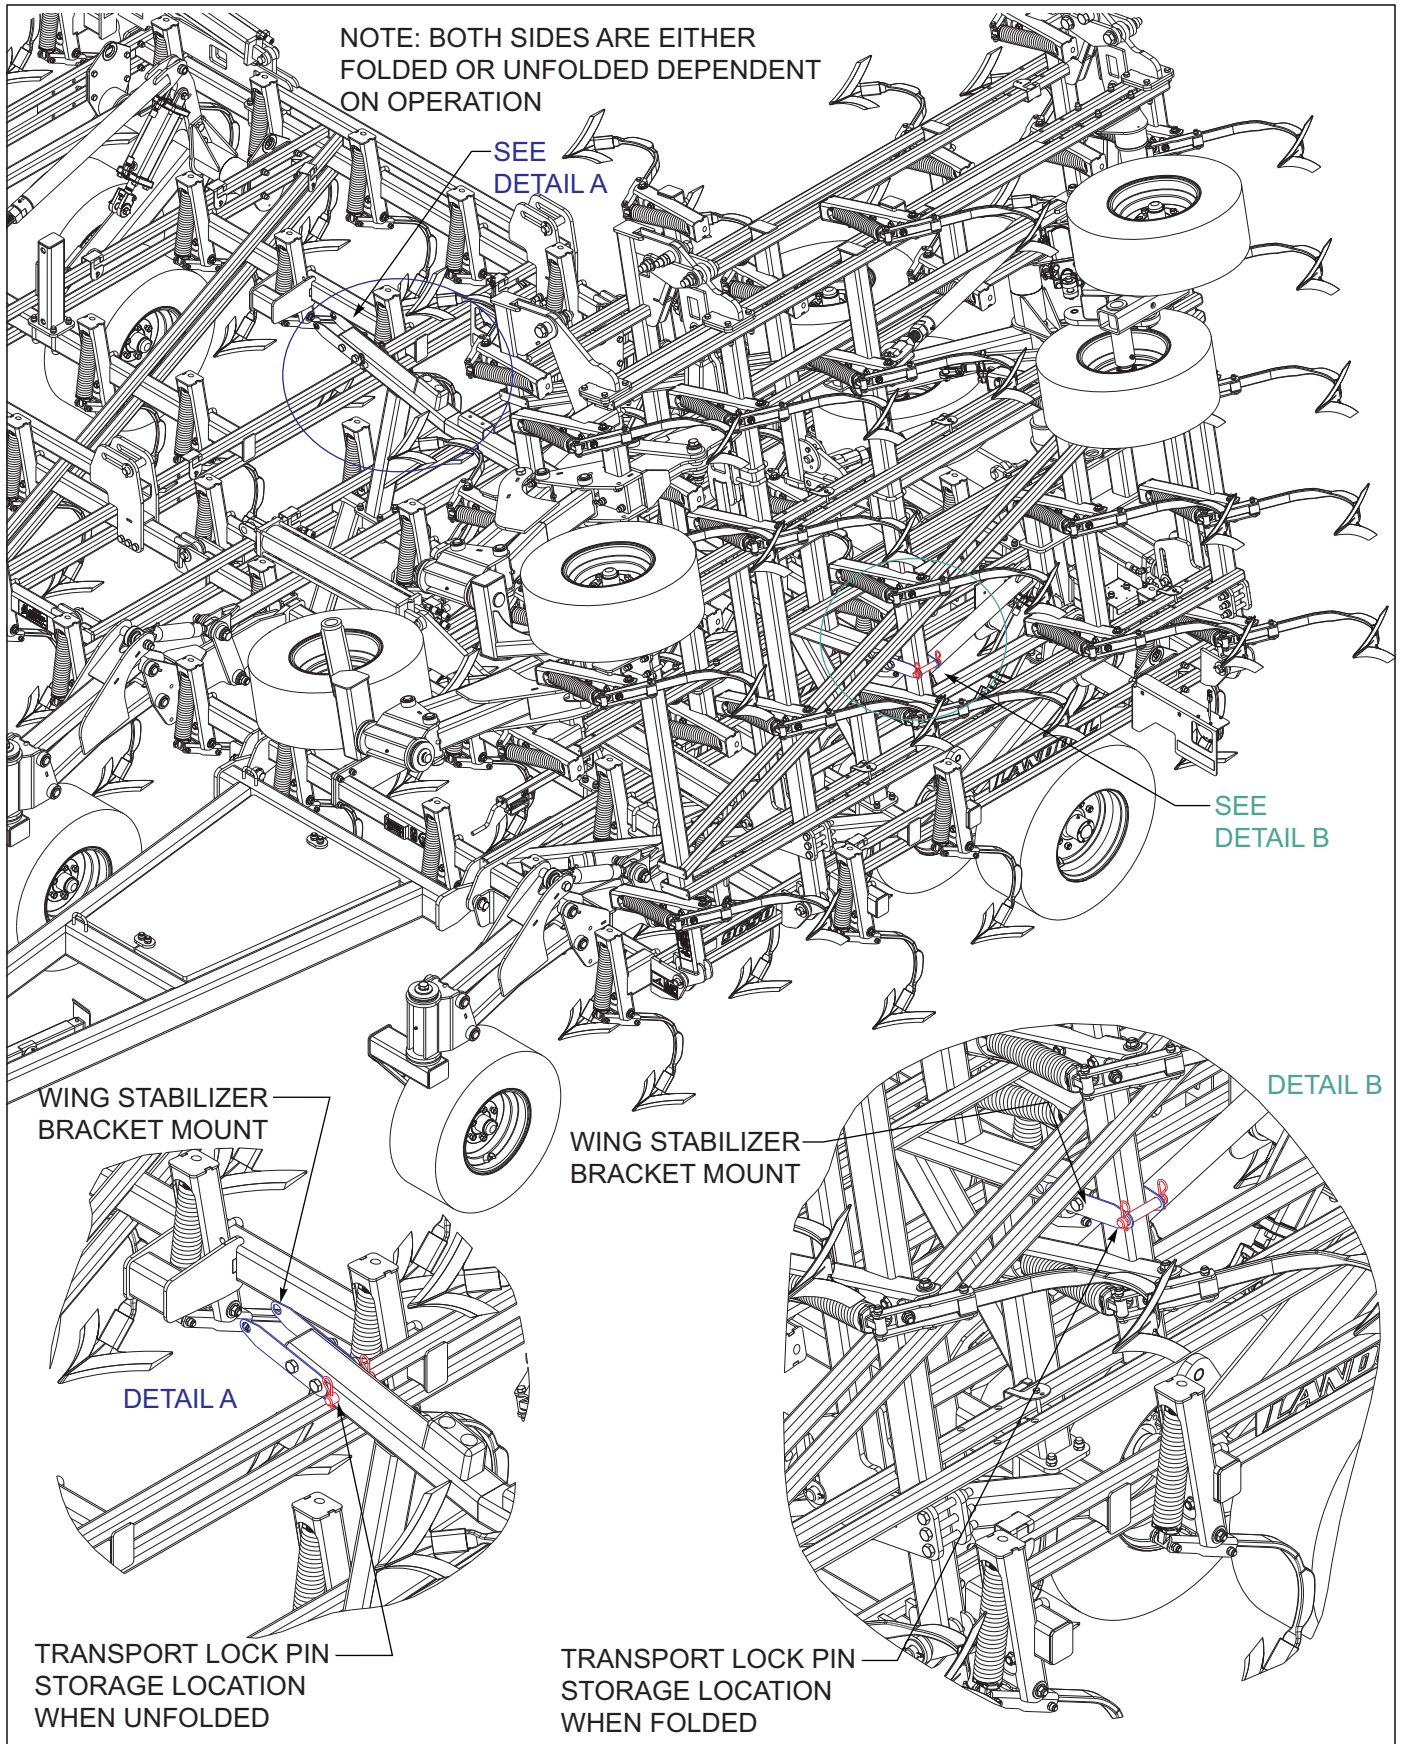

Figure 4-4: Wing Stabilizer Bracket Locks
4. To fold/unfold the Field Cultivator, find a level area large enough to accommodate the machine when it is fully unfolded. The tractor should be stopped and not moving with the implement fully raised. Remove the wing transport lock pins from the mounts and install them in the storage locations See Figure 4-4.
5. Slowly engage the tractor lever and fold/unfold the wing frames. When the wings are unfolded, continue holding the tractor lever to fully extend all fold cylinders. This will allow the wings to fully flex in the field. When the unit is fully folded, remove the wing transport lock pins from the storage location and install in the mounts provided on each side of the machine See Figure 4-4.
7. Storage - For extended periods of non use, it is best to store the Field Cultivator inside if possible. If the unit must be stored outside for extended periods, is best to apply a light coating of oil or grease to exposed cylinder rods to prevent them from rusting. If the unit is stored in the folded position, make sure the wing transport lock pins are installed to prevent wing frames settling See Figure 4-4.